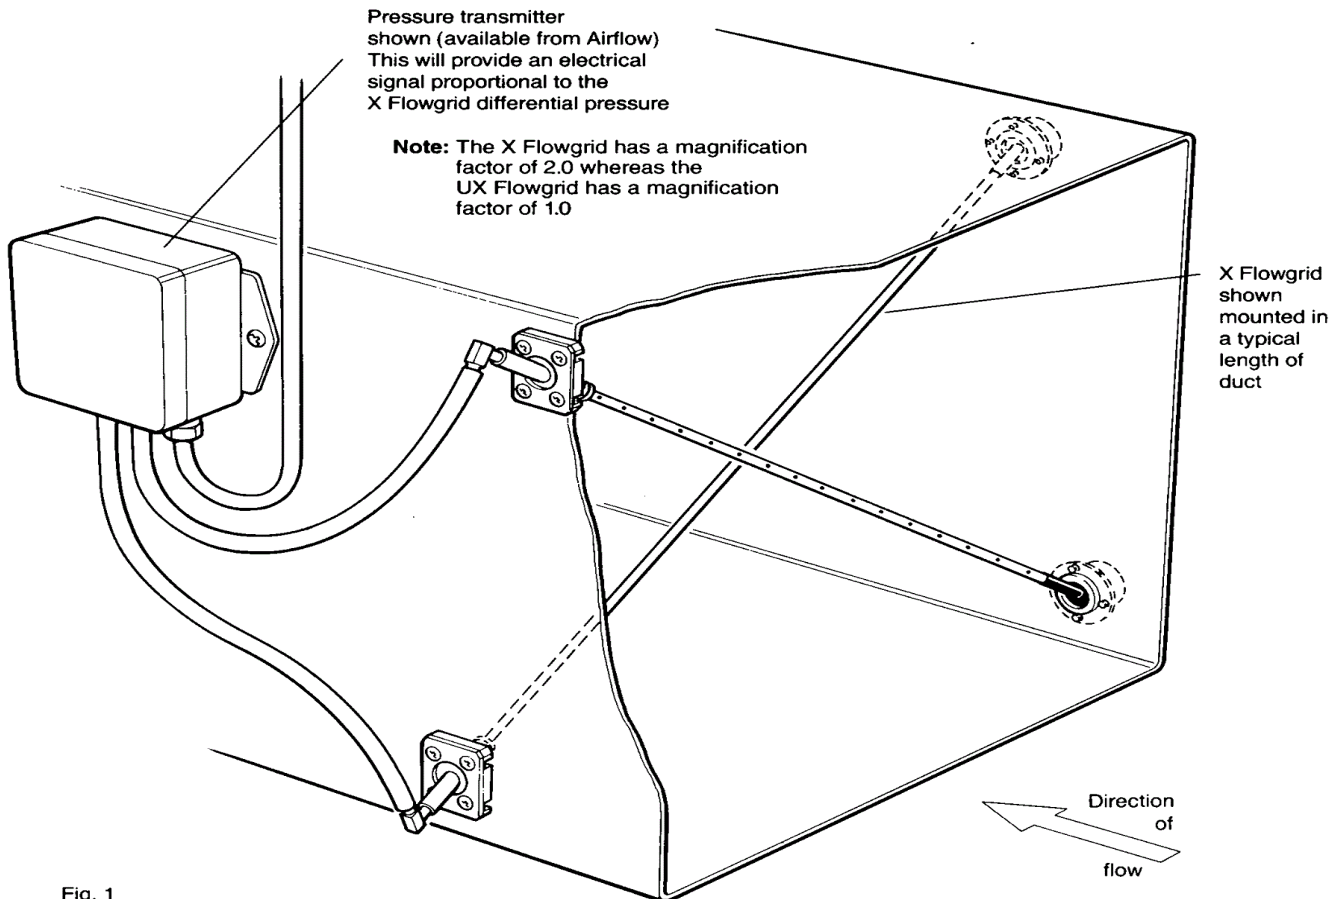

Fig. 1
7.1.2 A pressure transmitter available from Airflow may be used to give an electrical output proportional to the pressure signal or include a square rooting function to indicate velocity direct (see Fig. 1).